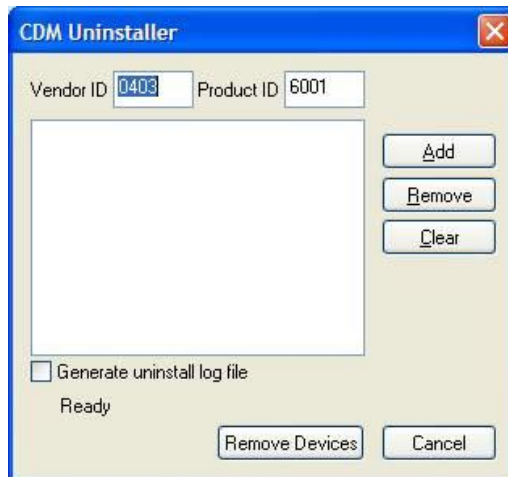

Figure 28 – CDM Uninstaller – Initial window
- Right-click on the file CDMuninstallerGUI.exe and select 'Run as Administrator' to ensure that the program is run with administrator privileges. You should see the window shown in Figure 28 below.
8. Once the drivers have all been uninstalled (the large text box will be blank again like Figure 28 above and the status message will be back to 'ready') you can close the program.
| Figure 28 – CDM Uninstaller – Initial window..... | 45 |